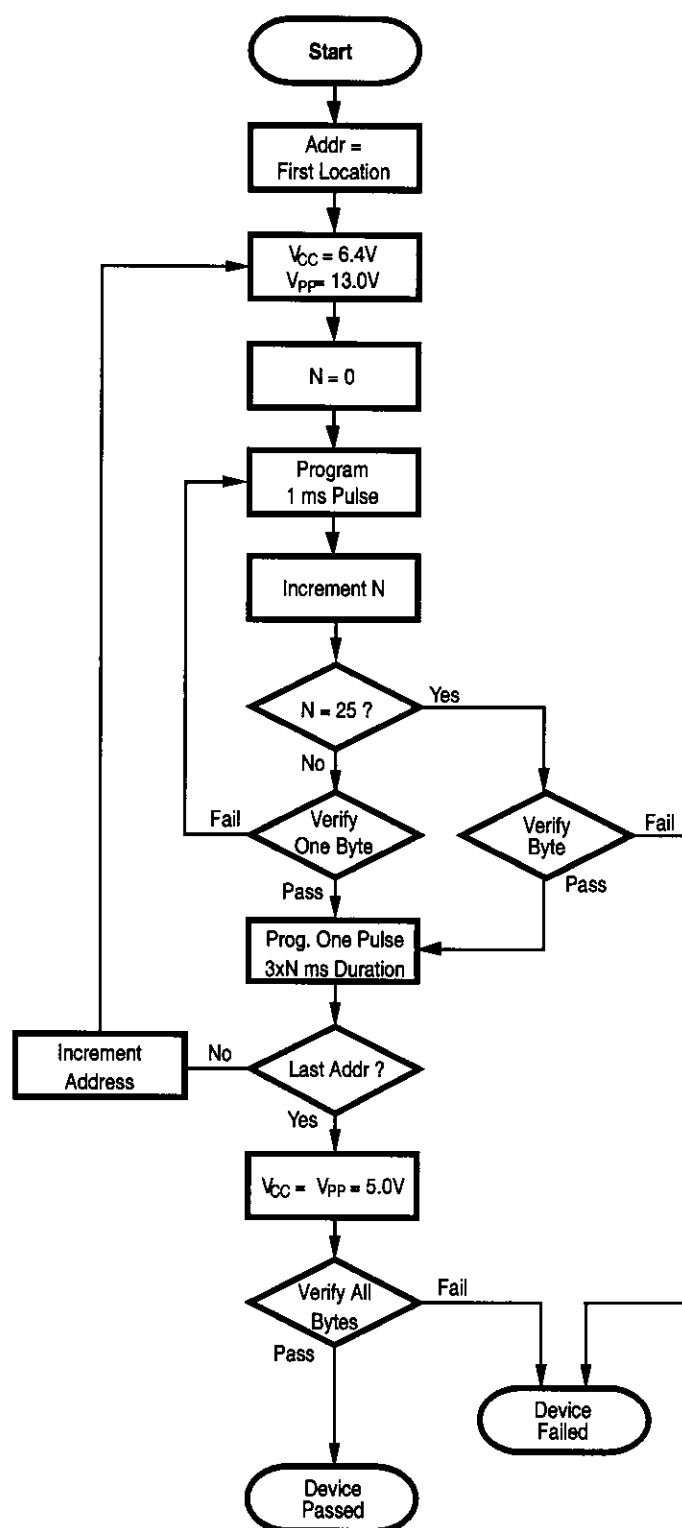

Figure 23. Z86E04/E08 Programming Algorithm
**Programming Algorithm.** Figure 23 shows the flow chart of the Z8 programming algorithm.